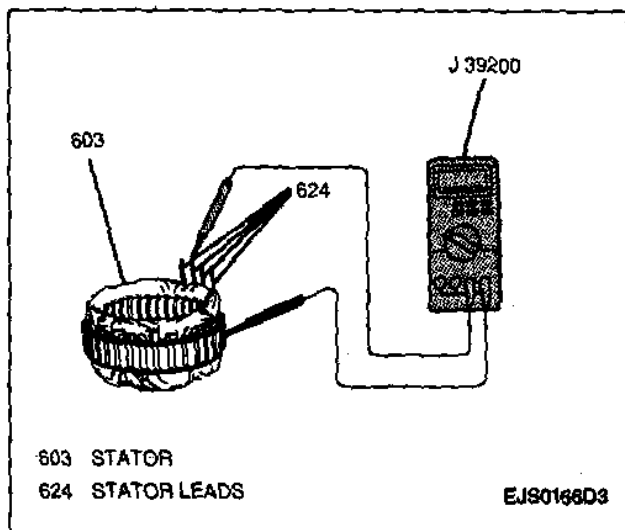

Figure 16—Measuring Stator Lead-to-Stator Core Resistance
4. Resistance between all stator leads and the stator core using the J 39200 (Figure 16). If resistance is less than 5 ohms, replace the stator.